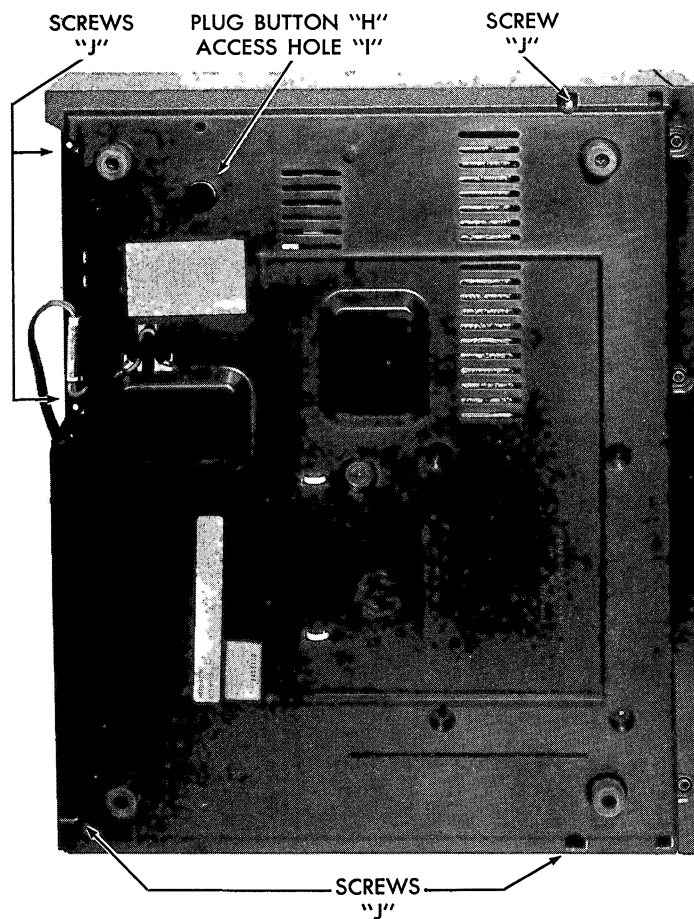

FIGURE 29 – CABINET BOTTOM REMOVAL
RECORD CHANGER REMOVAL (See Figure 29)
3. Remove plug button "H" in Figure 29, on bottom of cabinet.
CABINET TOP REMOVAL (See Figure 29)
2. Remove five (5) screws ("J" in Figure 29) located in wells in cabinet bottom.